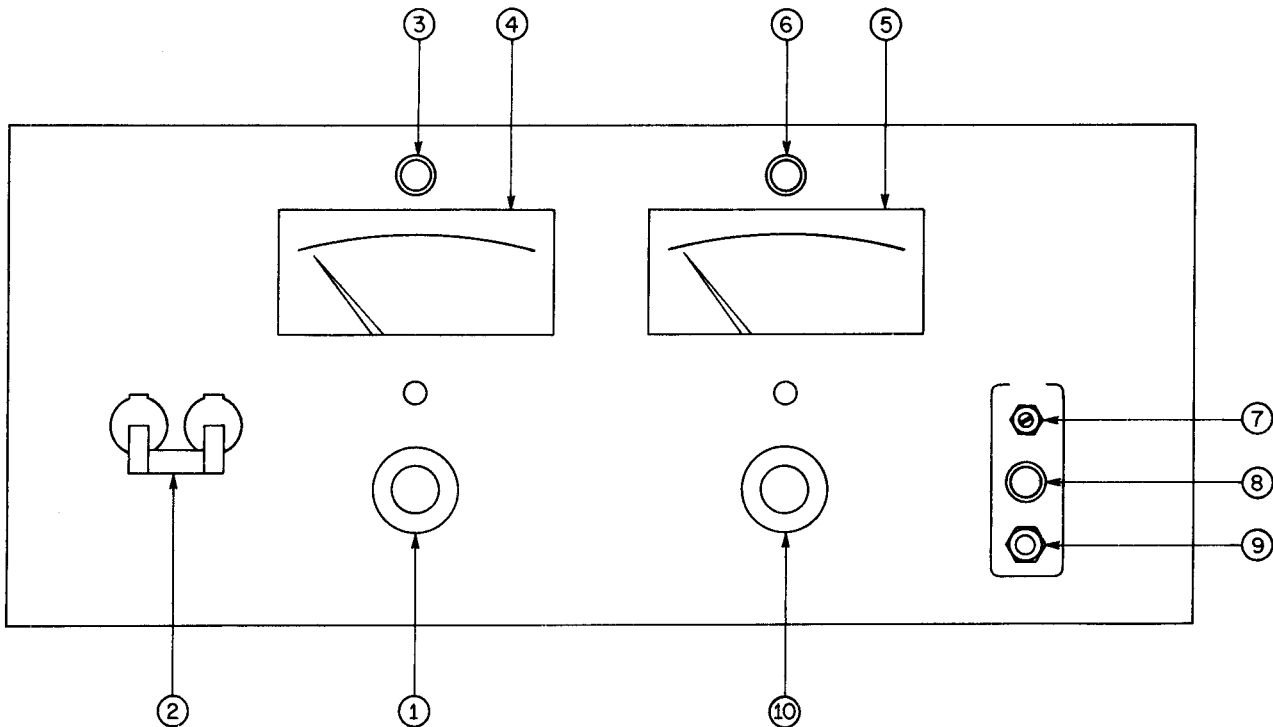

FIG. 2-2 CONTROL AND TERMINATIONS, ATE 3/4 RACK GROUP, FRONT.
- a) FRONT PANEL: Refer to FIG. 2-2 and Table 2-2.
2-9 A simple operating check after unpacking and before permanent installation is advisable to ascertain whether the power supply has suffered damage resulting from shipment. Refer to FIG. 2-2 and to FIG. 2-3 for the location of the operating controls and output terminals.